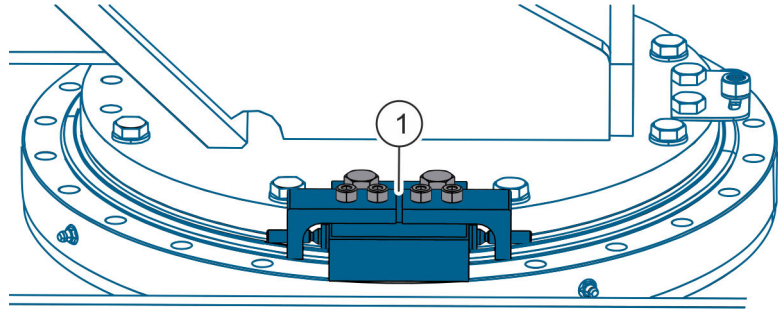

Fig. 14: Assembly safety device
9. ➤ Assemble the assembly safety device (Fig. 14/1).